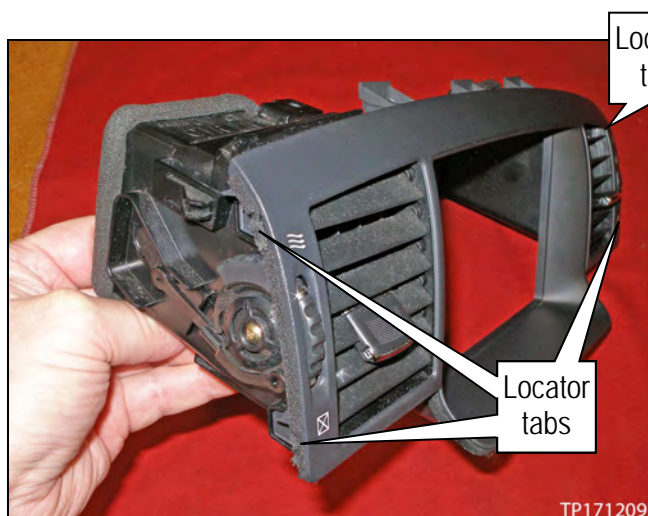

Figure 17
- See location of locator tabs and where they fit in the instrument panel pad in Figure 17 and 18.